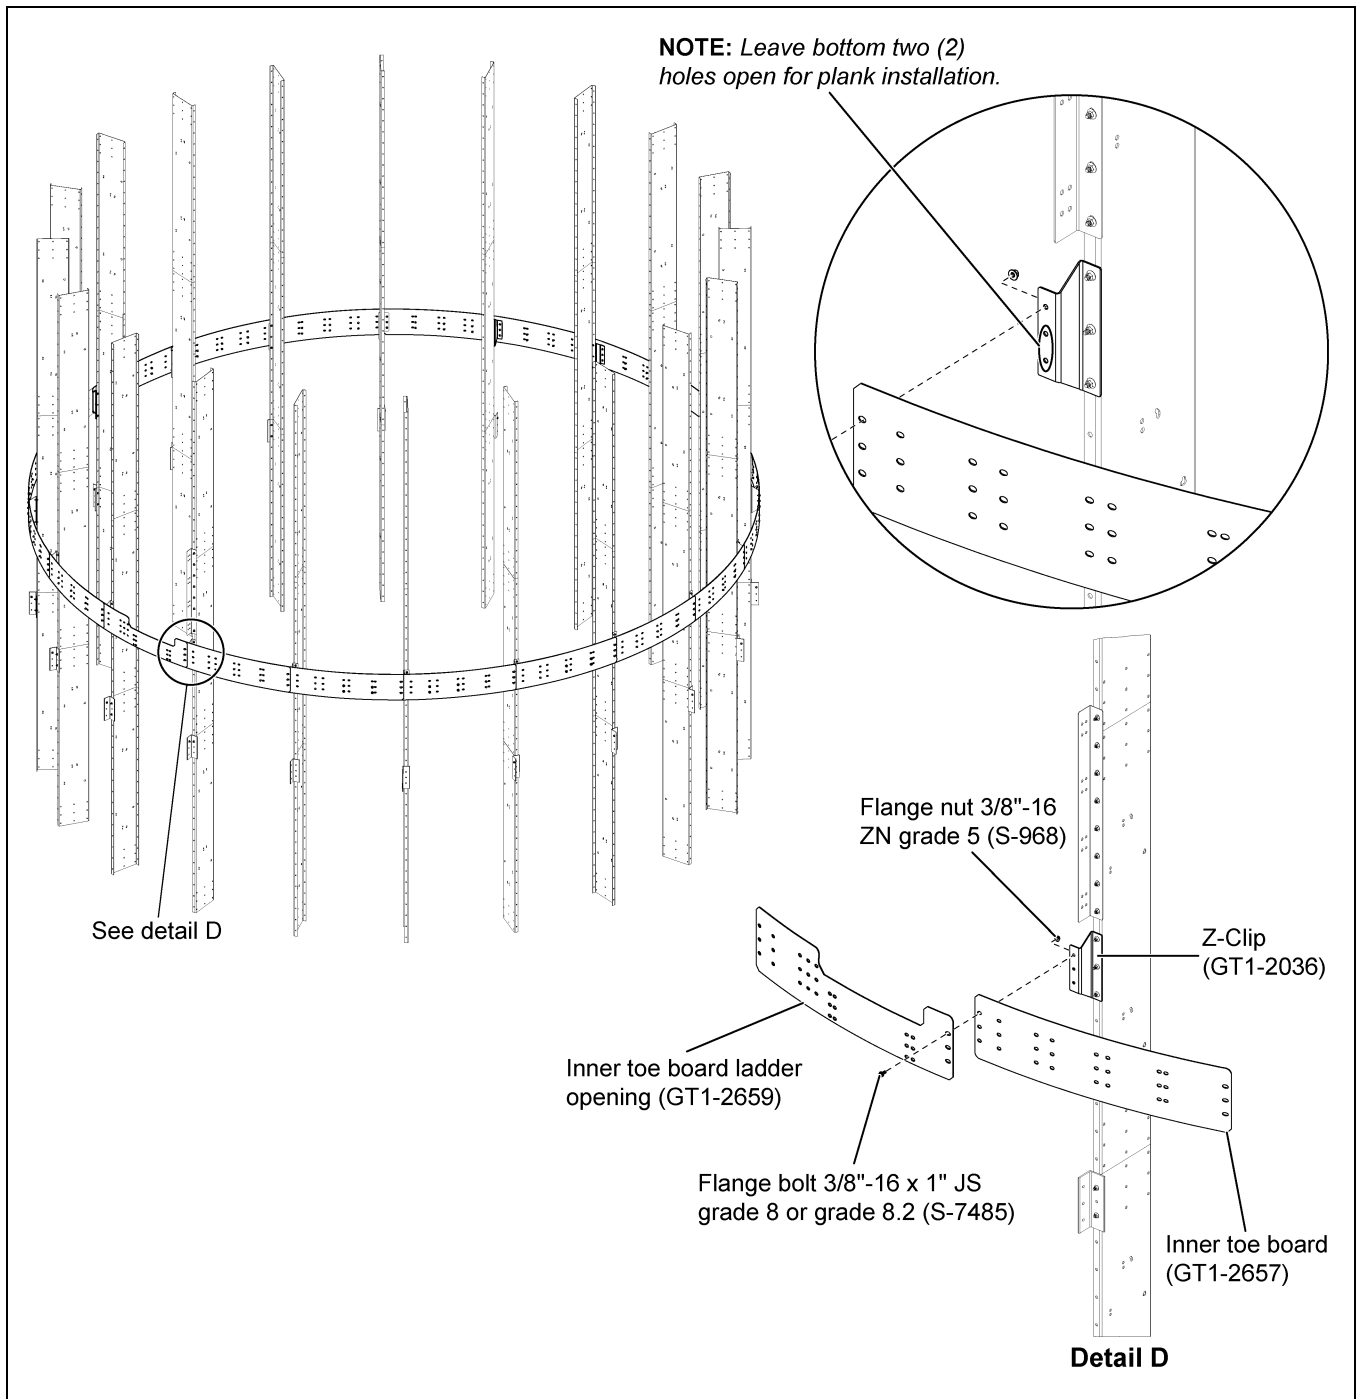
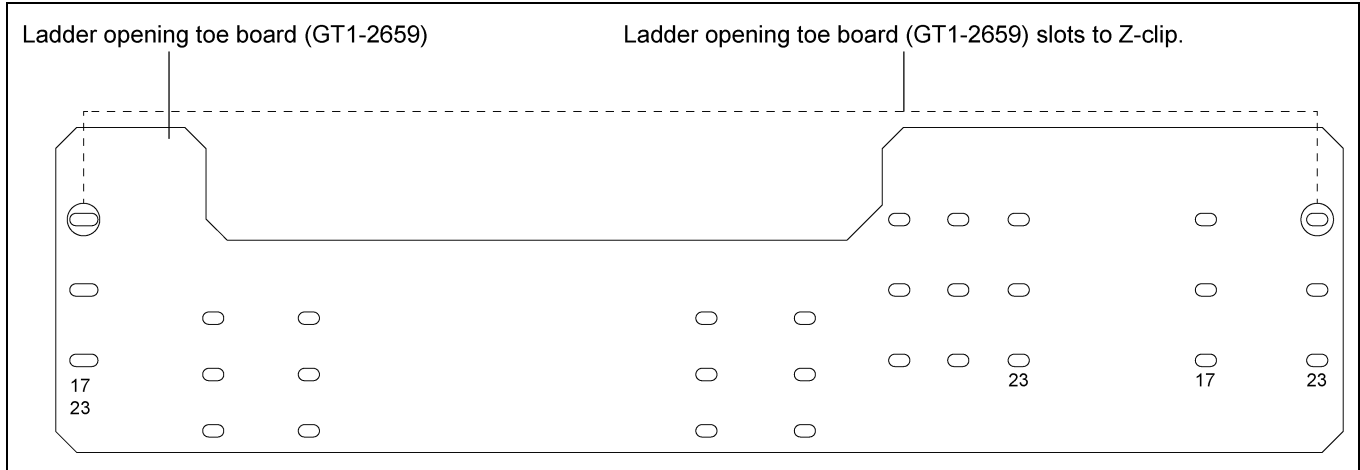

Figure 4G
Figure 4H 23'-4" Ladder Opening Toe Board (GT1-2659)
1. Install the inner toe board (GT1-2657) to the Z-clips (GT1-2036). All toe boards should be installed between the Z-clips using 3/8"-16 x 1" JS grade 8 or grade 8.2 bolts (S-7485) and 3/8"-16 ZN grade 5 nuts (S-968). (See Figure 4G.)
2. At the ladder location, install the ladder opening toe board (GT1-2659) to Z-clips using 3/8"-16 x 1" JS grade 8 or grade 8.2 bolts (S-7485) and 3/8"-16 ZN grade 5 nuts (S-968) in such a way that toe board opening falls on the ladder path. (See Figure 4G below and Figure 4H on Page 20.)